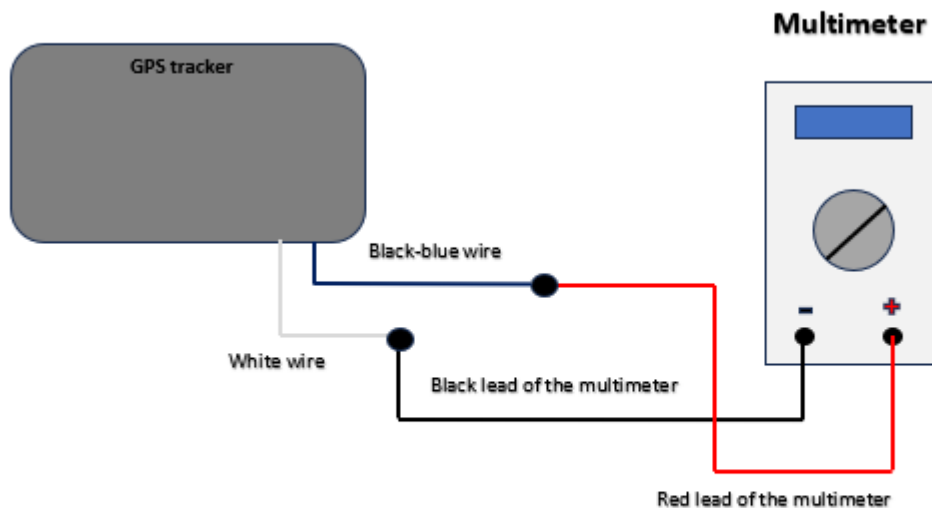

Fig. 7 Connection Diagram
2. Assemble the connection circuit according to "Fig. 7 Connection Diagram."
If you want, I can assist with safety tips, expected resistance values for a good connection, or explain the exact wiring diagram for "Fig.7" from official GPS-tracker Omnicomm manuals.